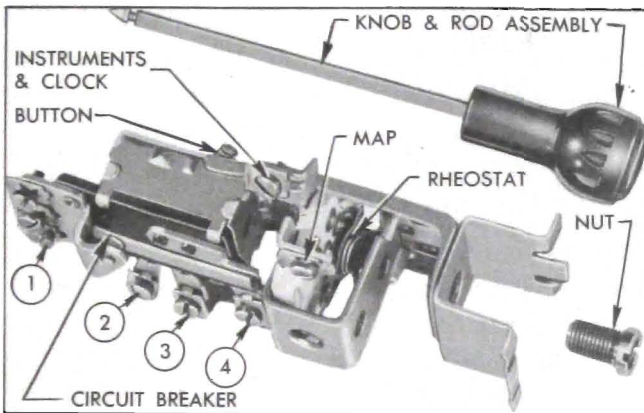

Figure 10-59—Lighting Switch
3. Remove switch mounting nut with Wrench J 1589 and remove switch and escutcheon from instrument panel. See figure 10-59.